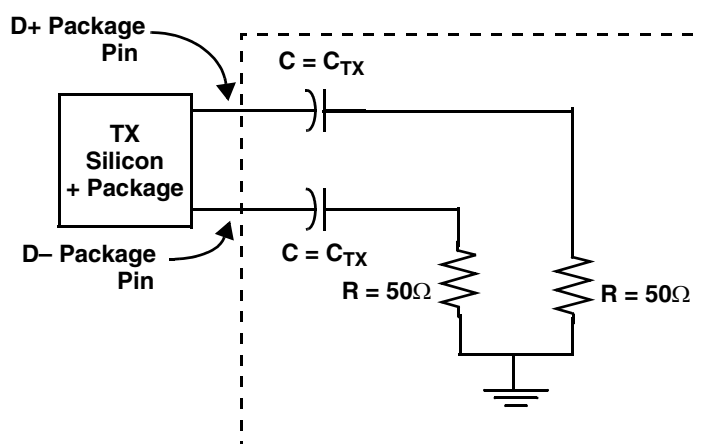

Figure 47. Compliance Test/Measurement Load
- ² Specified at the measurement point into a timing and voltage test load as shown in Figure 47 and measured over any 250 consecutive Tx UIs.
Transmitter and receiver AC characteristics are measured at the transmitter outputs (SD_TX n and SD_TX_B n) or at the receiver inputs (SD_RX n and SD_RX_B). The AC timing and voltage parameters must be verified at the measurement point, as specified within 0.2 inches of the package pins, into a test/measurement load shown in Figure 47.